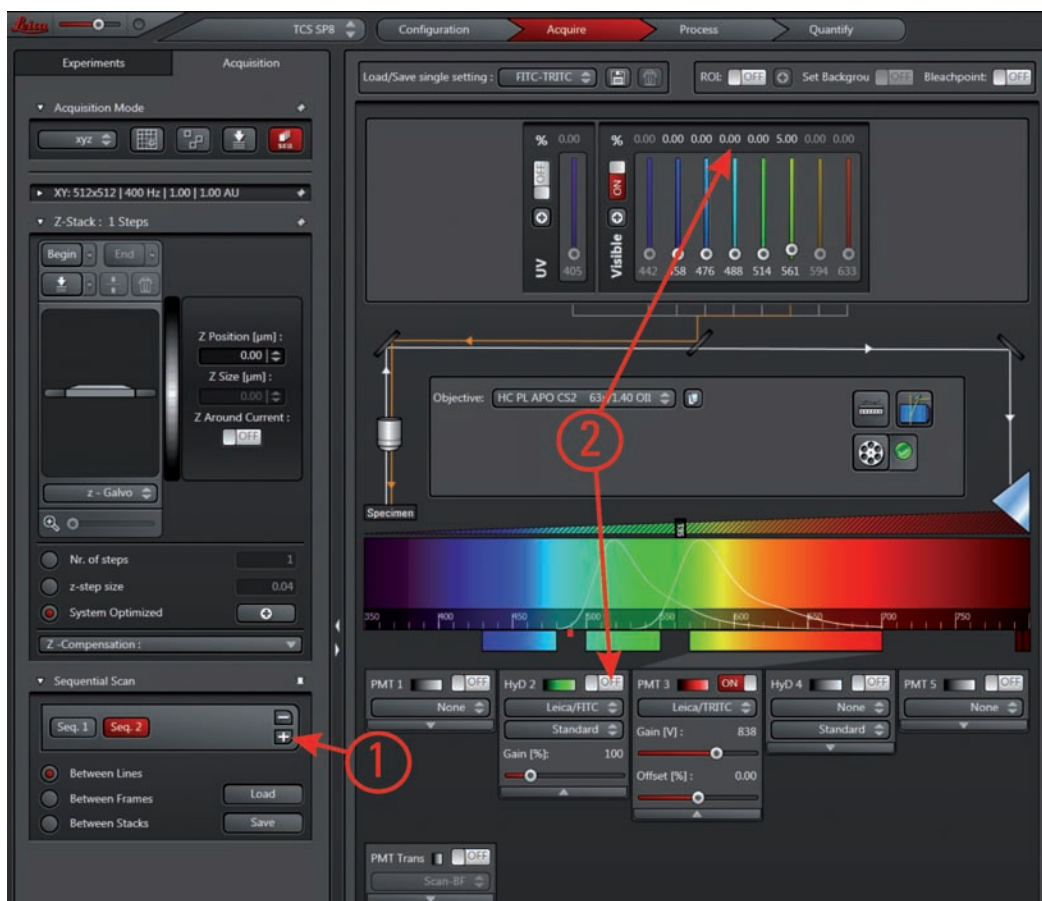

Figure 7
5. Click + to open **Seq. 2** (Fig. 7, 1). This step copies **Seq. 1** to **Seq. 2**.
8. Set the excitation line 488 to 0% and deactivate the detector for the FITC detection (see Fig. 7, 2).
5. Open the **Sequential Scan** dialog by clicking the **SEQ** button in the **Acquisition Mode** panel. Click **+** to save the above settings for **Seq.1** and to open **Seq. 2 (Fig.7, 1)**.